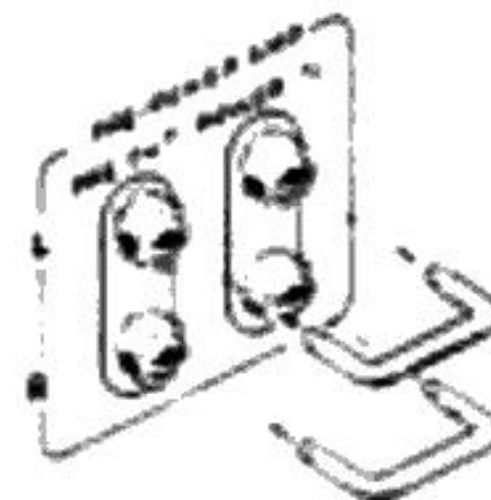

Fig. 30
The preamplifier section of the SX-1250 can be used independently to drive an external power amplifier. This allows comparison listening between the built-in SX-1250 power amplifier and a homebuilt or other separate power amplifier (Fig. 30).
1. Remove both of the plugs bridging the PRE OUT and POWER IN jacks (Fig. 30).